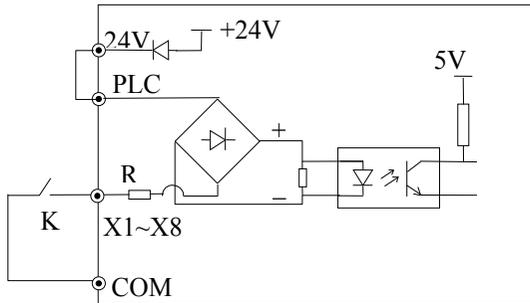

Fig. 2-20 Using Internal 24V Power Supply(in 3R75GB/31R5PB~3004GB/35R5PB only X1~X5)
1)If internal 24V power supply is used, the wiring is shown in Figure2-20(Attention: PLC and 24V must be firmly connected).